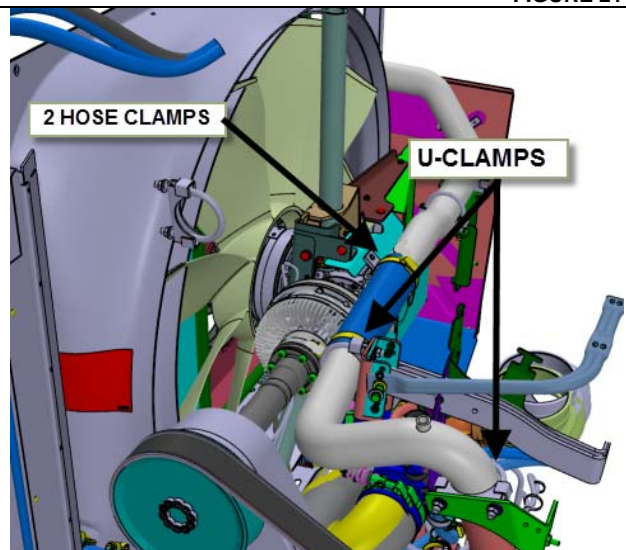

FIGURE 22
29. Reinstall the U-clamps (2 U-clamps) loosely (FIGURE 22).